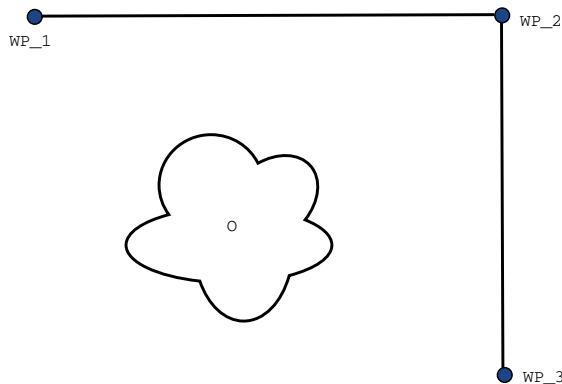

Figure 15.2: WP\_1: initial position, WP\_2: via point, WP\_3: pick up position, O: obstacle.
**Example** Consider a pick and place application as an example (see figure 15.2), where the robot is currently at Waypoint 1 (WP\_1), and it needs to pick up an object at Waypoint 3 (WP\_3). To avoid collisions with the object and other obstacles (O), the robot must approach WP\_3 in the direction coming from Waypoint 2 (WP\_2). So three waypoints are introduced to create a path that fulfills the requirements.